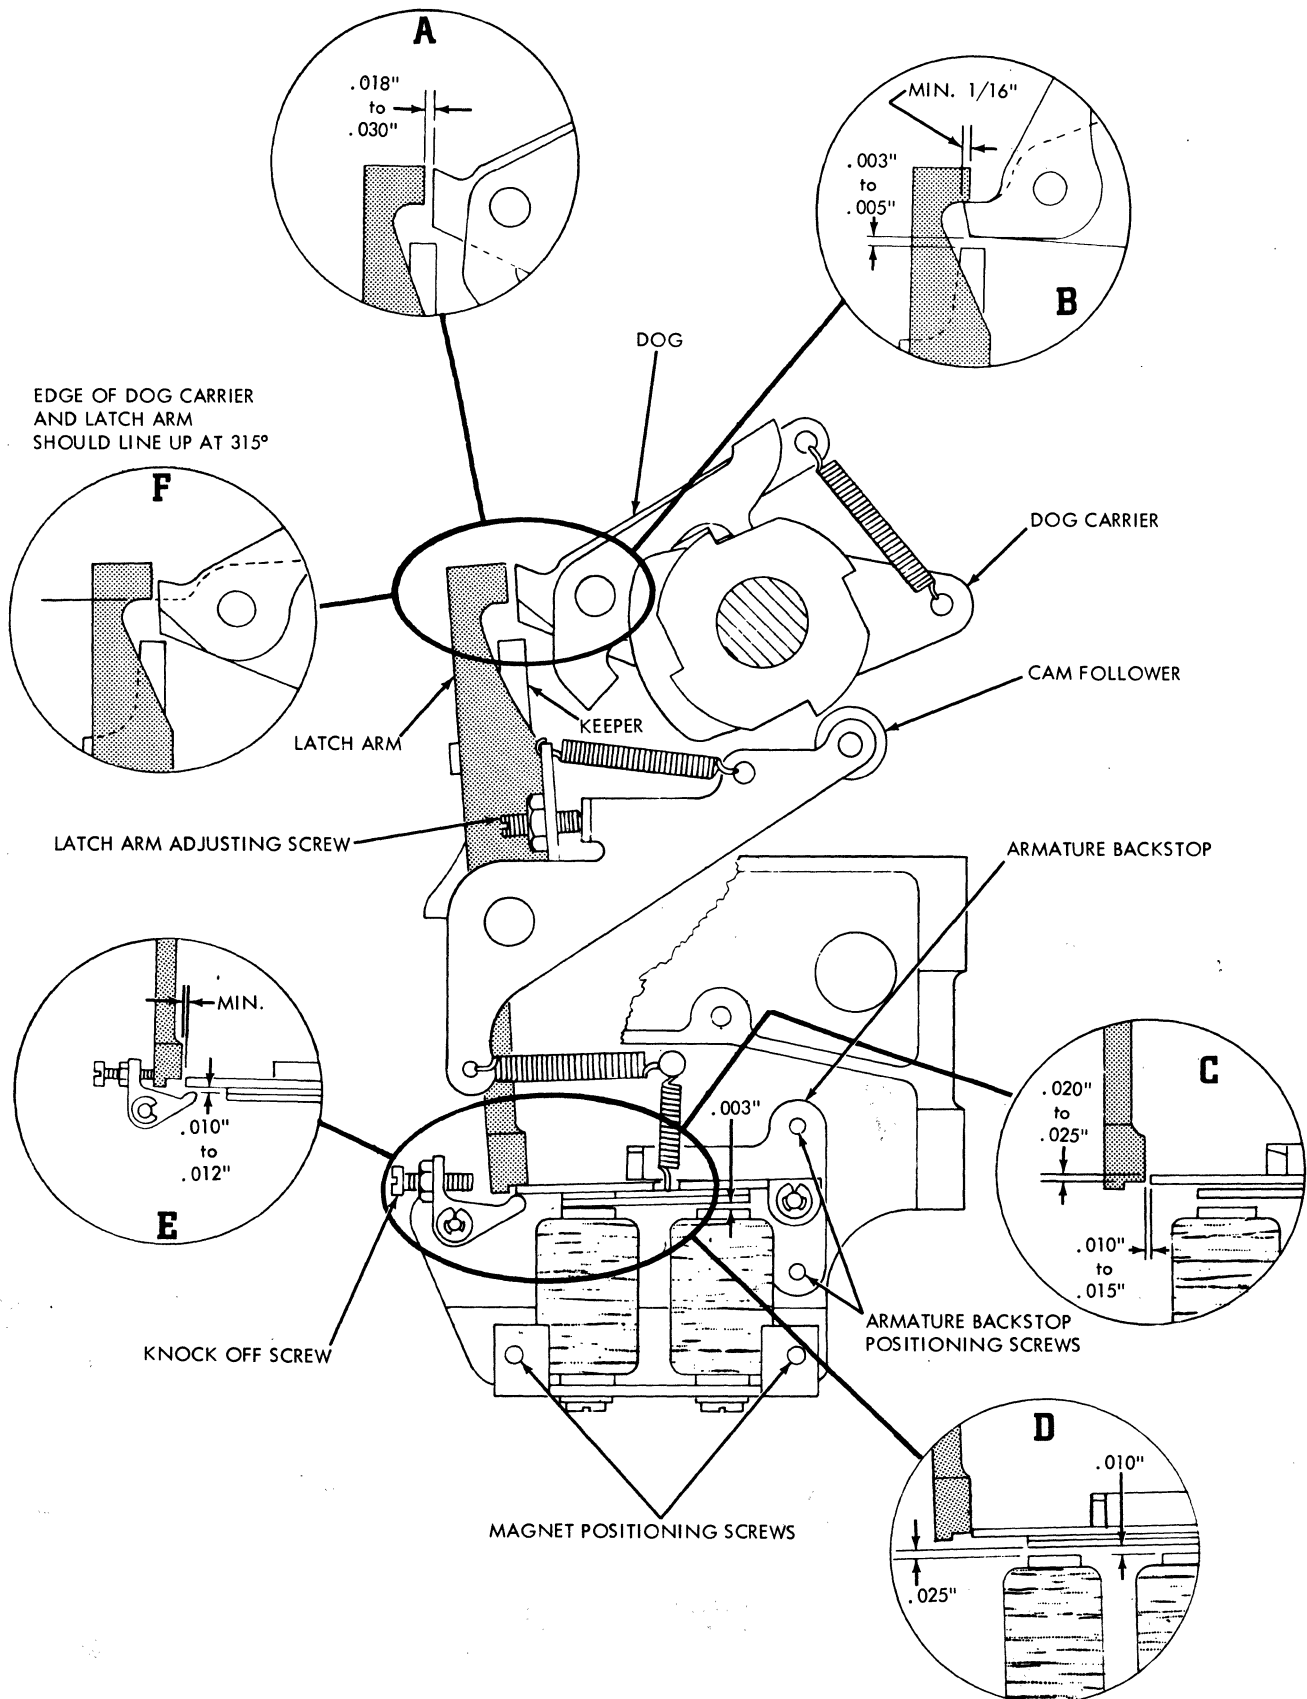

Figure 3-21. Punch Clutch Adjustments
2. Turn machine to low dwell on clutch cam. Trip clutch; set adjusting screw for .018" to .030" unlatching clearance (Figure 3-21 A).
3. Crank machine to high dwell on clutch cam. Check for a minimum of 1/16" overlap of clutch latch arm on dog and dog carrier (Figure 3-21 B).
- a. Reposition latch arm if necessary (check item 2).
4. Check for .003" to .005" clearance between dog carrier and keeper. Peen or stone the keeper to adjust it (Figure 3-21 B).
overlap of armature and latch; position horizontally for .010" to .015" relatching clearance (Figure 3-21 C).